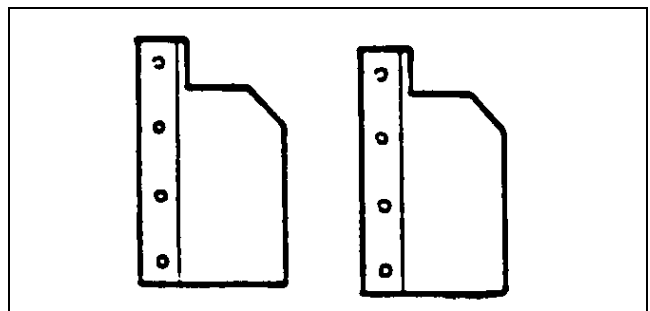

Figure 19
- TOR70153A2 Main Seal Installer Shims (Fig. 19)